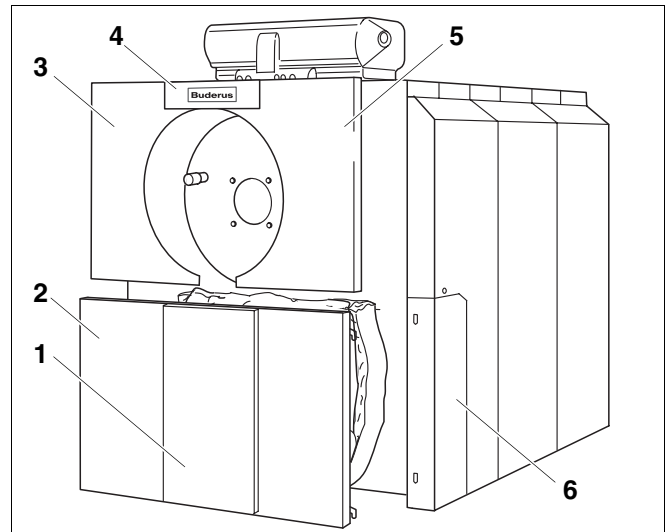

Fig. 28 Remove the front wall
- Remove the upper (Fig. 28, **Item. 4**) and lower cover part (Fig. 28, **Item. 1**).
- Remove the upper front wall (left and right) (Fig. 28, **Item. 3 und 5**).
- Remove the lower front wall (Fig. 28, **Item. 2**).
- Remove the left and right side wall sections (Fig. 28, **Item. 6**).